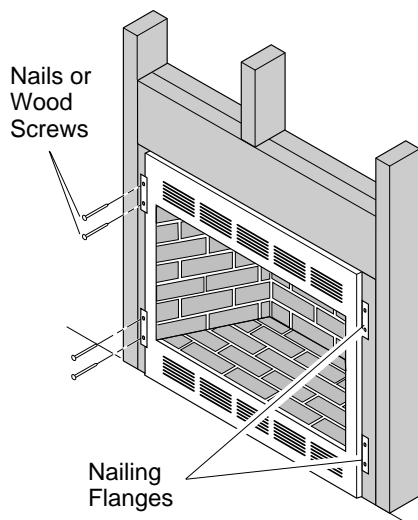

Figure 9 - Attaching Firebox to Wall Studs
- Attach firebox to wall studs using nails or wood screws through holes in nailing flange (see Figure 9).